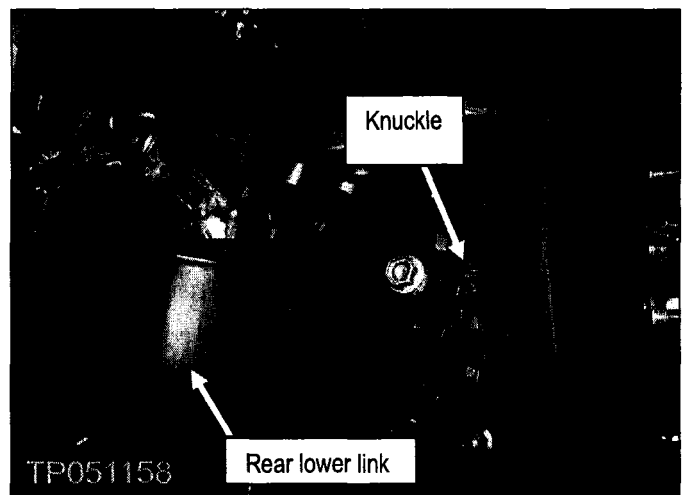

Figure 27
- f. After removing the coil spring, temporarily re-attach the rear lower link to the knuckle (see Figure 27).